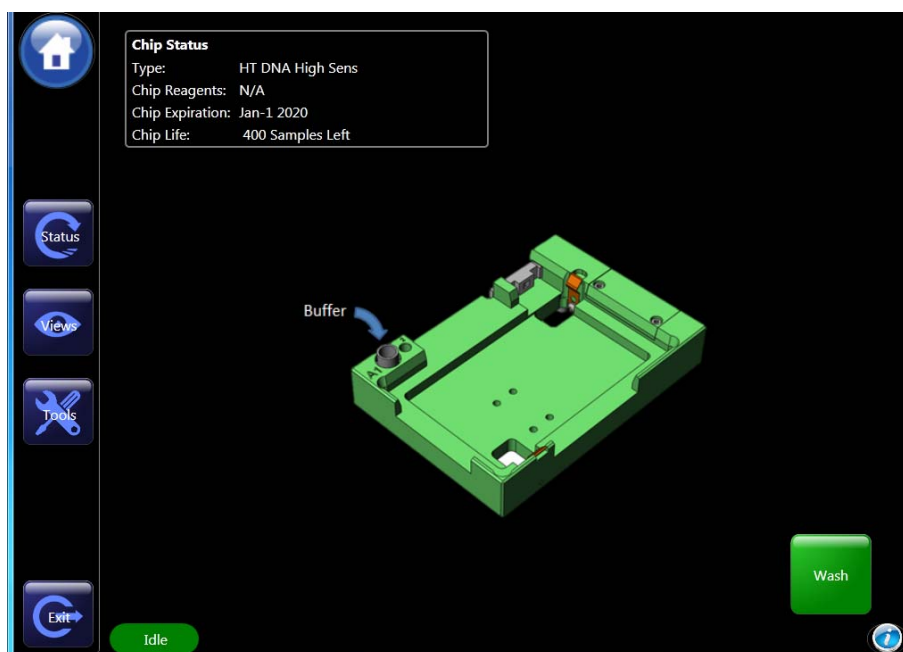

Figure 20. Wash screen.
- Touch the *Wash* button on the *Home* screen. The *Wash* screen opens (Figure 20).